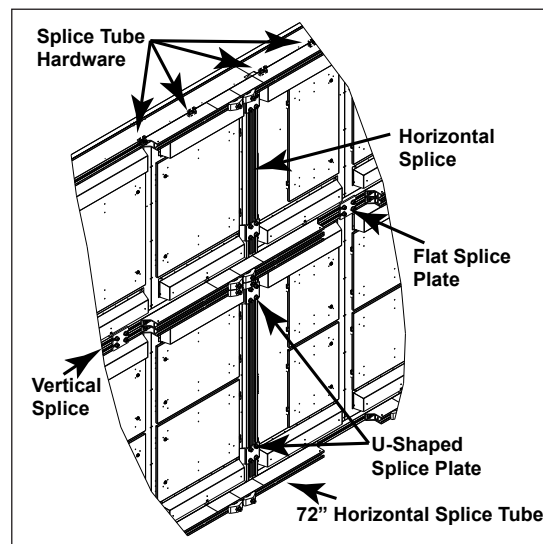

Figure 11: Horizontal Splice Assembly
17. Locate the 72" splice tube. Refer to **Figure 11**.